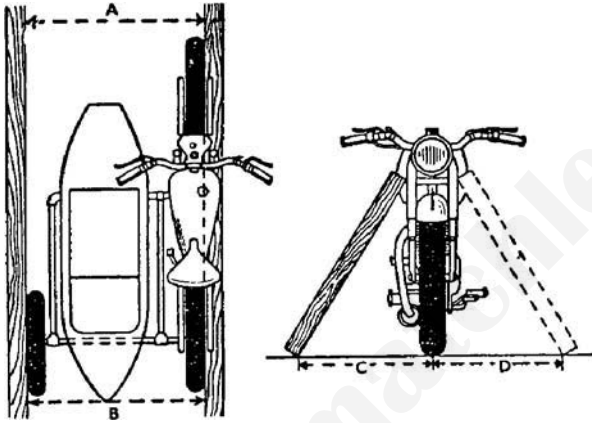

FIG. 61. CHECKING WHEEL ALIGNMENT ON A SIDECAR OUTFIT
Before checking the wheel alignment of a sidecar outfit, place the outfit on a smooth floor, preferably a concrete surface. Referring to Fig. 61, to check that all three wheels of the A.J.S. are running in track, place one of the long boards alongside the front and rear tyres of the motor-cycle and verify that the board contacts the front and rear of each tyre, as when checking alignment on a solo
Without disturbing the board placed alongside the motor-cycle tyres place the second longboard so that its true edge contacts the sidecar tyre, as illustrated in Fig. 61. Then, with a steel measuring-tape ' check dimensions (A) and (B), with the tape as close to the tyres as practicable. To obtain the best results, dimension (A) should be about $\frac{3}{4}$ in. less than dimension (B). If the motor-cycle and sidecar wheels are dead parallel, there is a tendency for the sidecar outfit to pull towards the left.
Having checked the three wheels for alignment, verify that the motorcycle itself is quite vertical Referring to Fig. 61, take the 4 ft. board and rest it at a given point against the upper part of the "Teledraulic" front forks. Mark the floor where the edge of the board touches it. Then rest the board on the opposite side of the forks with its upper end in exactly the corresponding position and again mark the floor where the lower edge of the board touches. With the steel measuring-tape, check dimensions (C) and (D). If the machine is truly vertical, these two dimensions are